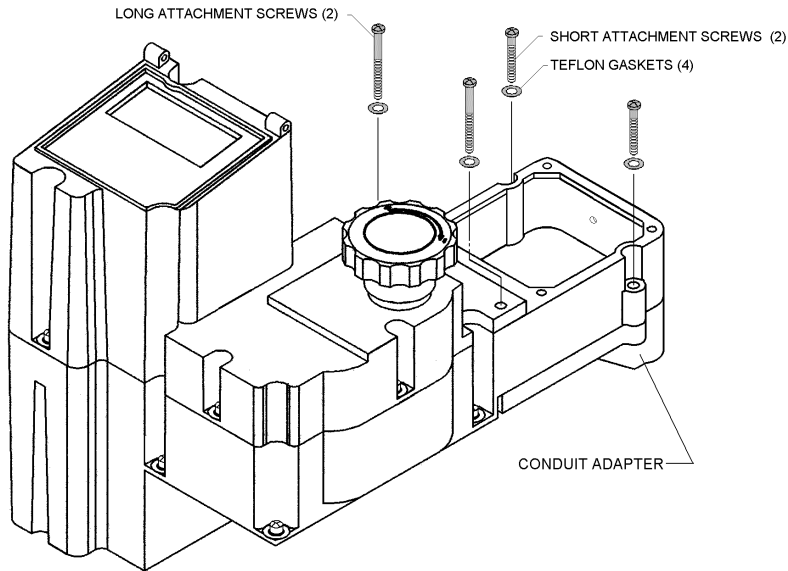

Figure 25 – Conduit Adapter Screw Removal
7. Remove the four screws and Teflon Gaskets that retain the conduit adapter. Refer to *Figure 25*.